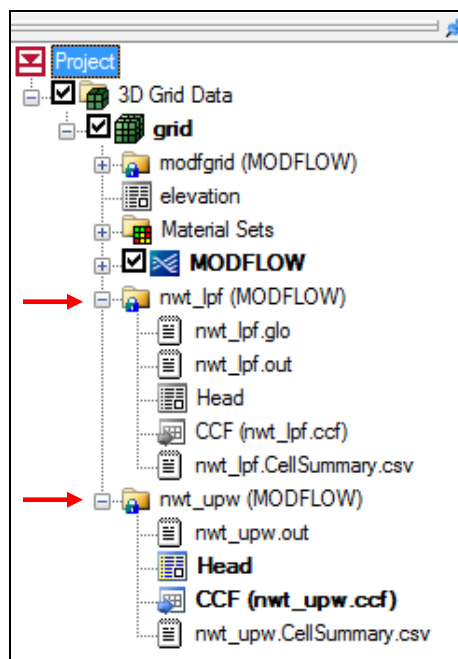

Figure 3 Project Explorer showing both solutions
GMS imports the solution and contours the head dataset. Notice the head contours are slightly different (Figure 3). The UPW and NWT packages give almost the same answer as the LPF and SIP1 packages when there are no cell wetting and drying conditions.
4. Compare the solution generated with the LPF package and the one generated with the UPW package by clicking back and forth on the two solutions (nwt_lpf and nwt_upw) in the Project Explorer (red arrows in Figure 3). It may be necessary to expand the “3D Grid Data” folder and “grid” item.